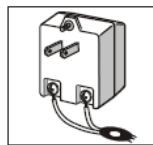
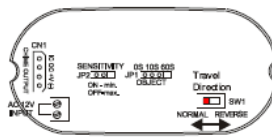

Fig. 4.5
Fig. 5
- 4.) Using the 6-ft power cord with in-line switch, connect the pre-stripped wires to the 12V AC 20VA transformer terminals (refer to Fig. 4.5). Strip the insulation on the opposite ends of the wires back approximately 1/4inch, and insert into sensor/transmitter terminals labeled 12V AC input (Refer to Fig. 5.).
- 5.) The travel direction switch must be properly placed depending on where the infrared sensor/transmitter is installed (refer to Fig 5).